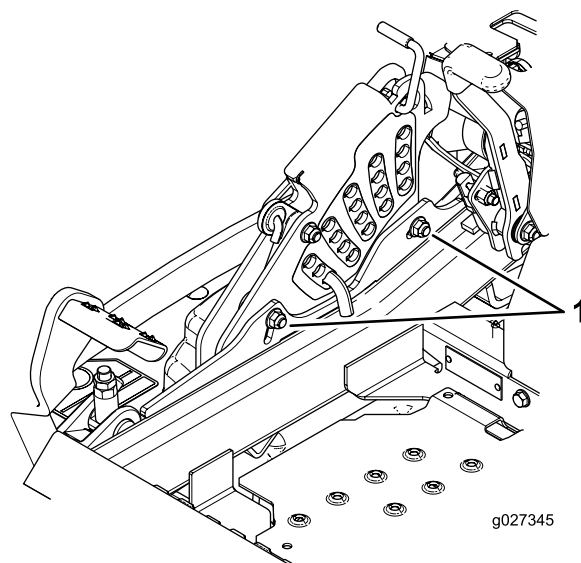

Figure 108
11. To adjust the single-point system, loosen the 2 bolts at the bottom of the height-of-cut plate (Figure 108).
13. Tighten the 2 bolts at the bottom of the height-of-cut plate (Figure 108).